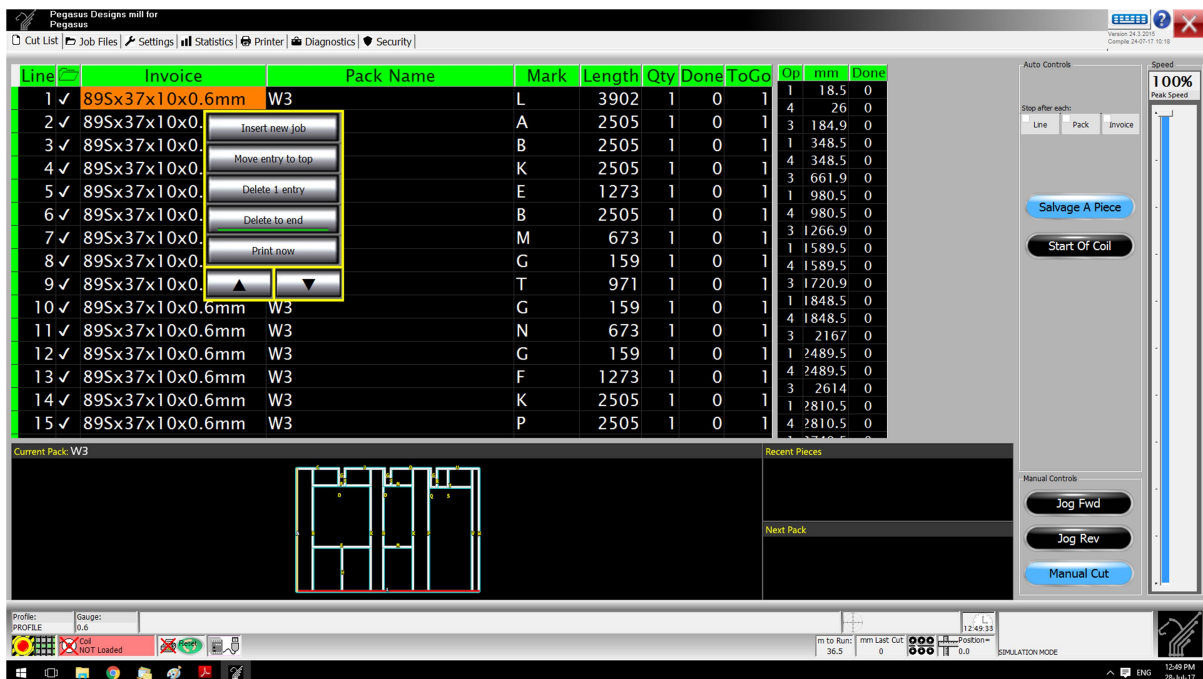

Figure 19: Deleting Cutlist
- Delete the cut list by right clicking in the Cut List screen and select **Delete to end**. See Figure 19.